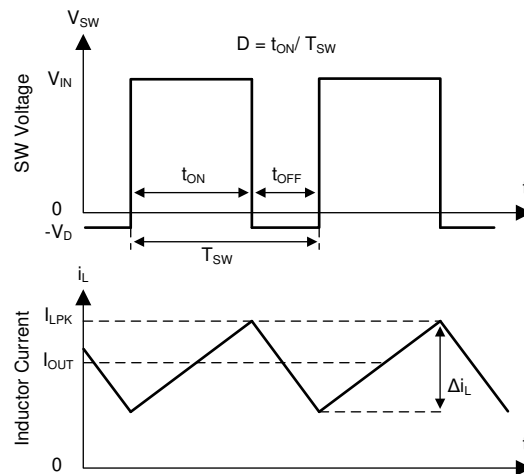

Figure 10. SW Node and Inductor Current Waveforms in Continuous Conduction Mode
The following operation description of the LM76002/LM76003 refers to the *Functional Block Diagram* and to the waveforms in Figure 10. The LM76002/LM76003 supplies a regulated output voltage by turning on the internal high side (HS) and low side (LS) NMOS switches with varying duty cycle (D). During high-side switch on-time t_{ON} , the SW pin voltage V_{SW} swings up to approximately V_{IN} , and the inductor current i_L increase with linear slope. The HS switch is off by the control logic. During the HS switch off-time, t_{OFF} , the LS switch is turned on. Inductor current discharges through the LS switch, which forces the V_{SW} to swing below ground by the voltage drop across the LS switch. The regulator loop adjusts the duty cycle to maintain a constant output voltage. The control parameter of buck converter is defined as duty cycle $D = t_{ON} / t_{SW}$. In an ideal buck converter, where losses are ignored, D is proportional to the output voltage and inversely proportional to the input voltage: $D = V_{OUT} / V_{IN}$.